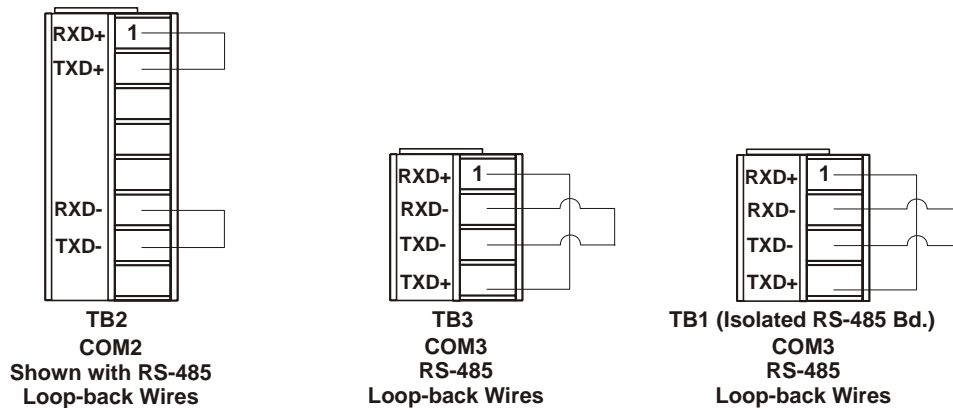

Figure 3-7 - RS-485 Loop-back Wires (Note TB1 N/A)
- Port 2 - RS-485 use loop-back wires (see Figure 3-7)
- Port 3 - RS-485 use loop-back wires (see Figure 3-7).